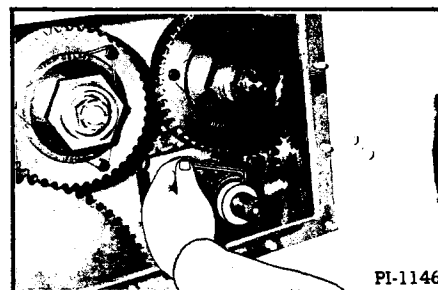
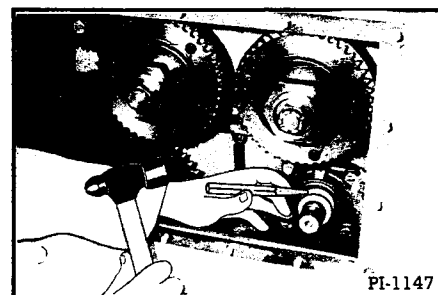
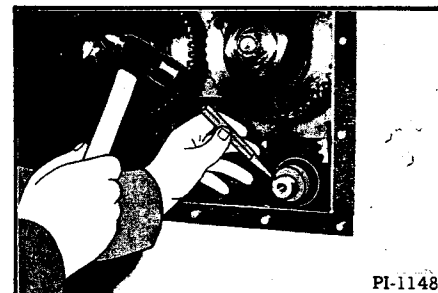

Fig. 37 Loosening Set Screw
Fig. 38 Removing Bearing Locking Collar
Fig. 39 Reinstalling Bearing Locking Collar
9. Remove the bearing locking collar from each end of the jackshaft. Loosen the set screw in the bearing locking collar (Figure 37) and rotate the collar opposite the shaft rotation until it is loose on the bearing (Figure 38). Rotating it about 3/4" will unlock it. Rotating it too far will relock it (backward).
13. To reassemble, align the jackshaft sprocket with the outside clutch sprockets on the right side of the machine. When they are aligned, lock the bearing locking collar onto the bearing hub by rotating it in the direction of shaft rotation (Figure 39). Tighten the locking collar set screw (Figure 37).
14. Mount the sprocket on the left end of the jackshaft and align it to the outer clutch sprockets. Use shim washers if necessary. Lock the locking collar by turning it in the direction of shaft rotation. Tighten the locking collar set screw (Figure 37).
6. Remove the bearing locking collar from the jackshaft. Loosen the set screw in the bearing locking collar (Figure 37) and rotate the collar opposite the shaft rotation until it is loose on the bearing (Figure 38). Rotating it 3/4" will unlock it. Rotating it too far will relock it (backward).
7. Lock the bearing locking collar on the bearing hub by turning it in the direction of shaft rotation (Figure 39).
8. Tighten the locking collar set screw (Figure 37).